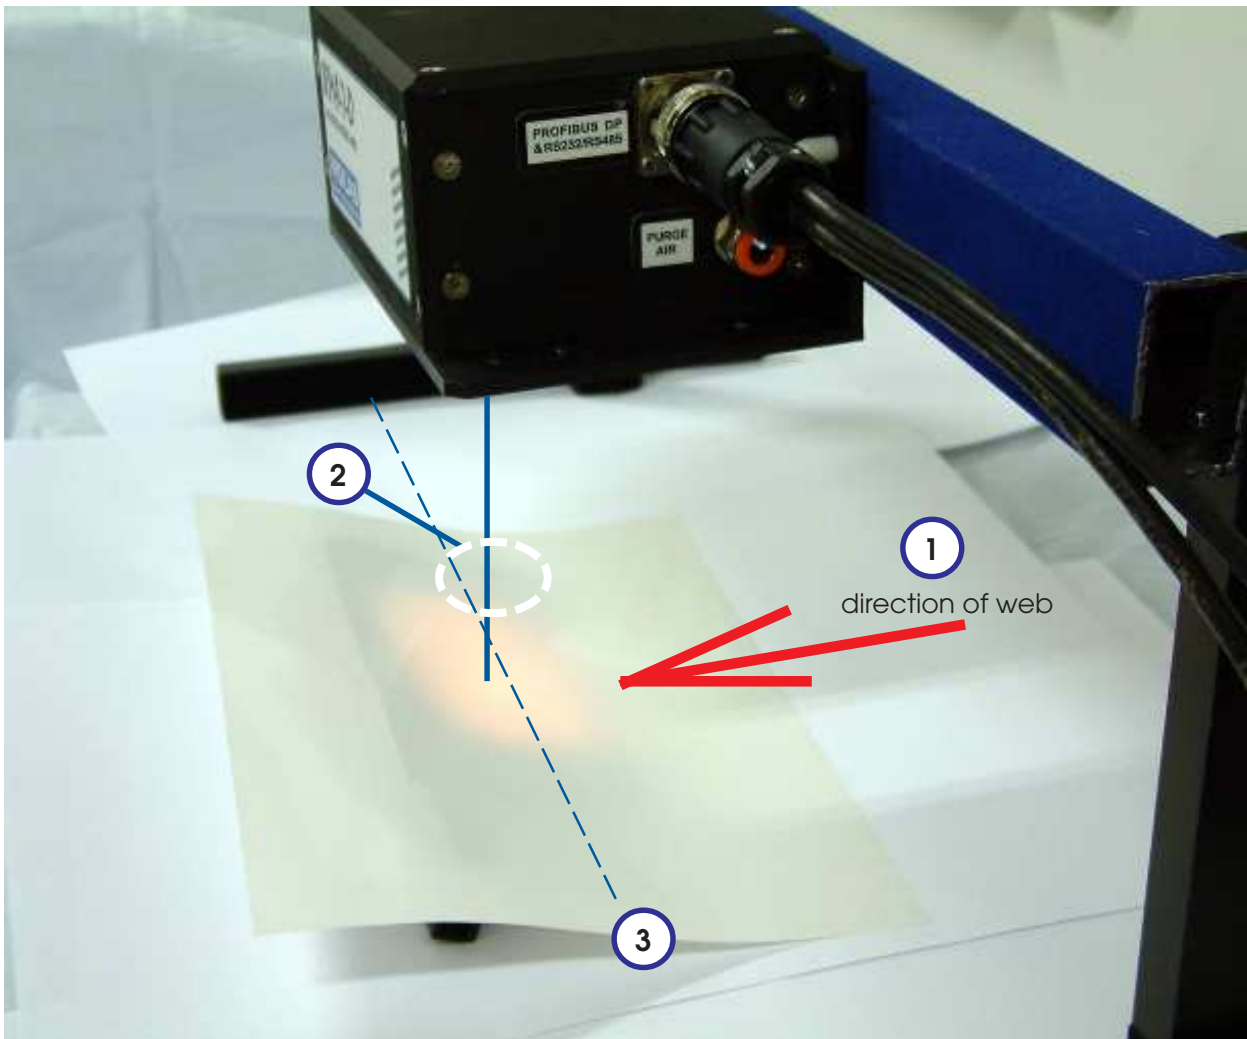

Figure 1. Measuring hot webs, definition of terms. Refer to text for the numbers.
The IRMA-7 model D moisture meters have been compensated against surface temperature variations and pose no big problems as long as temperature does not vary too fast in time. The typical response time of the internal web thermometer is about 160 ms to full accuracy. For best accuracy in very high temperatures, align the IR thermometer's estimated sensing point (2) and the sensitive area of the moisture meter's spot along the same line across the web (3), not along it (1), refer to Figure 1 in the following. Small errors in temperature do not cause too big errors into moisture. However, if calibrations are made at 25C and the web is run at 125 C, a significant error (+/-0.7% in moisture) may arise if the web temperature would be measured incorrectly at 25C. Needless to say, that the IRMA-7 model DE economy model is not able to take this into account since it does not have a web thermometer and thus should not be used for measuring very hot webs at all.